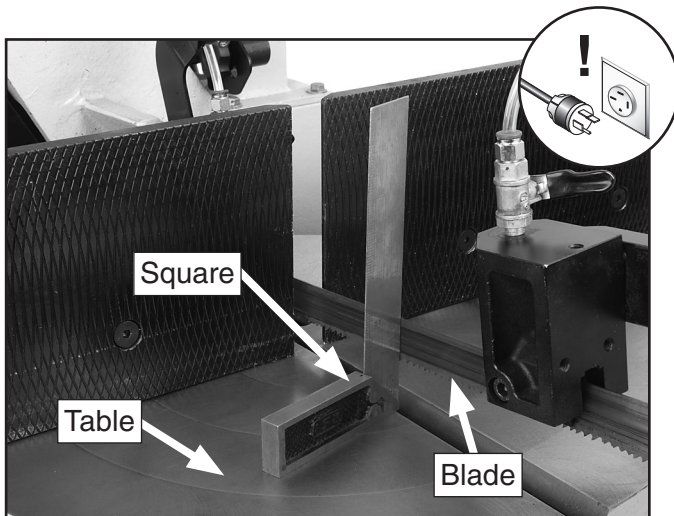

Figure 56. Checking blade squareness to vise.
4. Place a quality square on the table and the side of the blade (Figure 56) to verify the blade is square with the table.